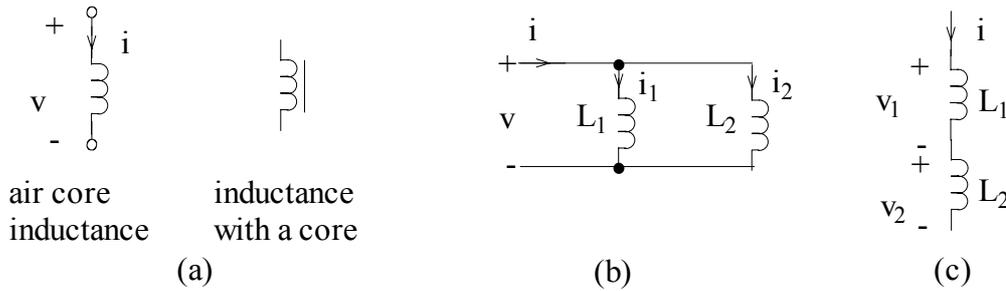

Figure 2.22 Inductor circuits. (a) inductance, (b) parallel inductances, and (c) series inductances.
When current flow through a piece of wire, a magnetic flux is generated around the wire. Reciprocally, if a conductor is placed in a time varying magnetic field, a current will be generated on it. From the electrical circuits point of view, this phenomena introduces the circuit element, *inductor*. Inductors are flux or magnetic energy storage elements. Inductance is measured in *Henries (H)*, and since most inductors used in electrical circuits have the physical form of a wound coil, a coil symbol is used in circuit diagrams to represent inductance (Figure 2.22(a)). The terminal relations of an inductance is given as
TRC-10 employs few different types of inductors. Some inductors are made by simply shaping a piece of wire in the form of a helix. These are called *air core inductors*. When larger inductance values are required in reasonable physical sizes, we wind the wire around a material which has higher *permeability* compared to air. This material is referred to as *core*, and such inductors are symbolized by a bar next to the inductance symbol, as shown in Figure 2.22(a).
The parallel and series combination of inductors are similar to resistance combinations, as can be understood from the terminal relation above. For parallel connected inductors as in Figure 2.22(a), the total inductance is
whereas for series connected inductors (Figure 2.22(c)),